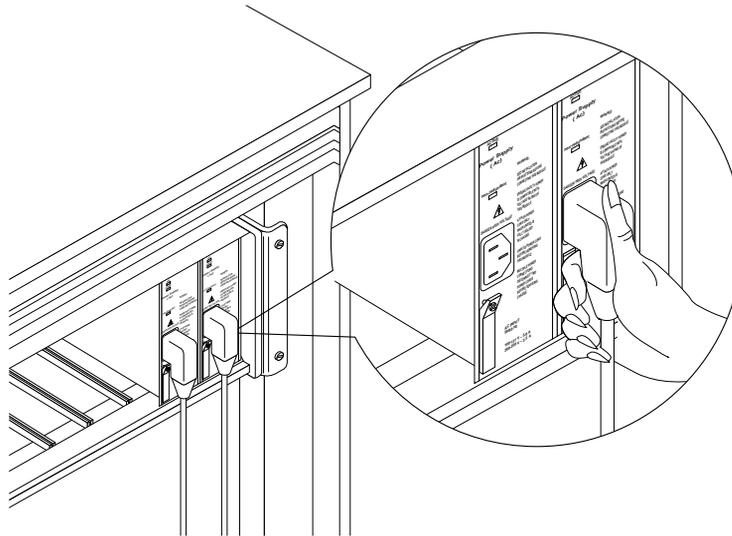

Figure 19. Inserting the Power Cord into the PSAX 1250 AC Power Supply Module
- 2 Press the L-shaped plug of the power cord firmly onto the Power Supply module faceplate, as shown in Figure 19.